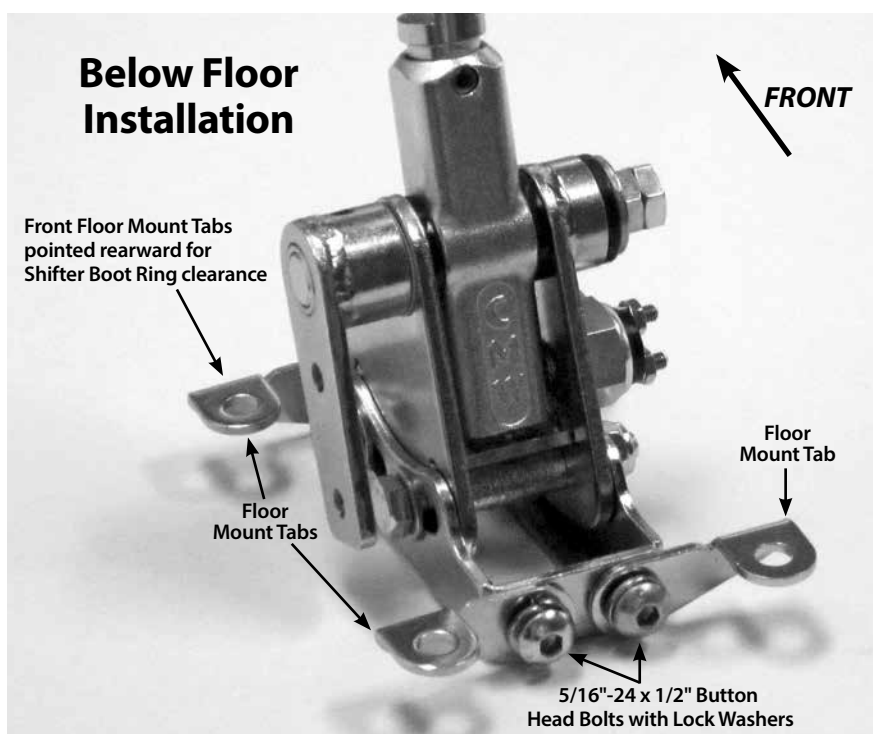

Fig. 2
Step 3: There are two pairs of floor mount tabs in the Shifter Kit. Which pair goes where will depend on if you are mounting the Shifter above or below the floor. See Fig. 2 to determine how the floor mount tabs need to be positioned for your particular application.
Attach the floor mount tabs to the floor mount mounting bracket as shown in Fig. 2 with the 5/16"-24 x 1/2" button head bolts and lock washers. Leave the bolts loose enough so that adjustments can be made later during the installation.